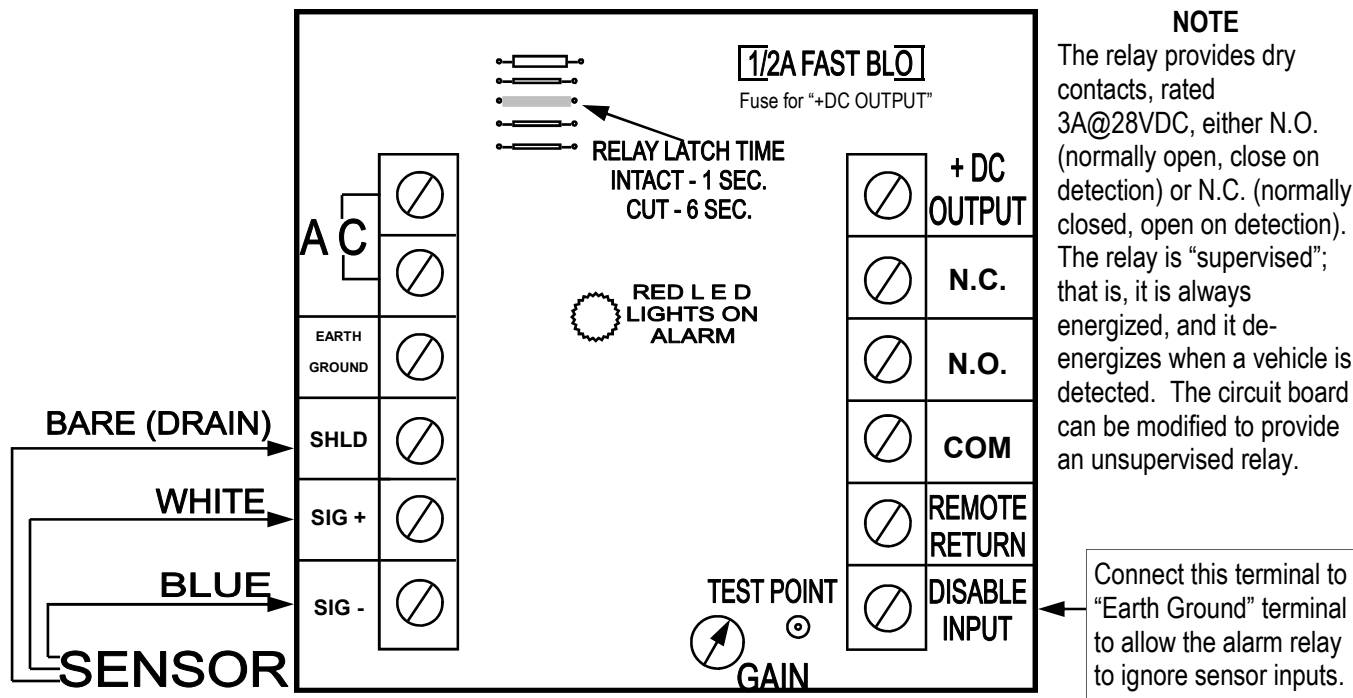

Figure 1 - Model D-376
5. Set the latch time of the relay as required - see Figure 1. The latch time also controls the duration of the voltage at the "+DC OUTPUT" and "REMOTE RETURN" terminals.